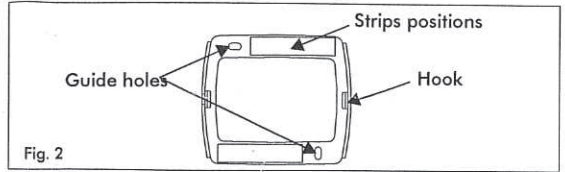

Fig. 2
For the wall fixing, locate a plane position not metallic. Place on the back side of the transmitter, inside the 2 rectangular areas, the 2 strips supplied (Fig. 2), remove the protection films and fix the transmitter . Where a screws fixing is required, divide the bottom support by the cover, making use of a screwdriver , on the side slot of the box. Locate the places for the holes by using the guide holes of the support. Drill and position the plugs (Ø 4 mms). Fix the lower support through the screws supplied. Then fix the cover on the support by pressing it up to the click of the hooks .
- 1) Remove the cover with the electronic card by using a screw-driver and acting on the side slot (Fig. 2) .